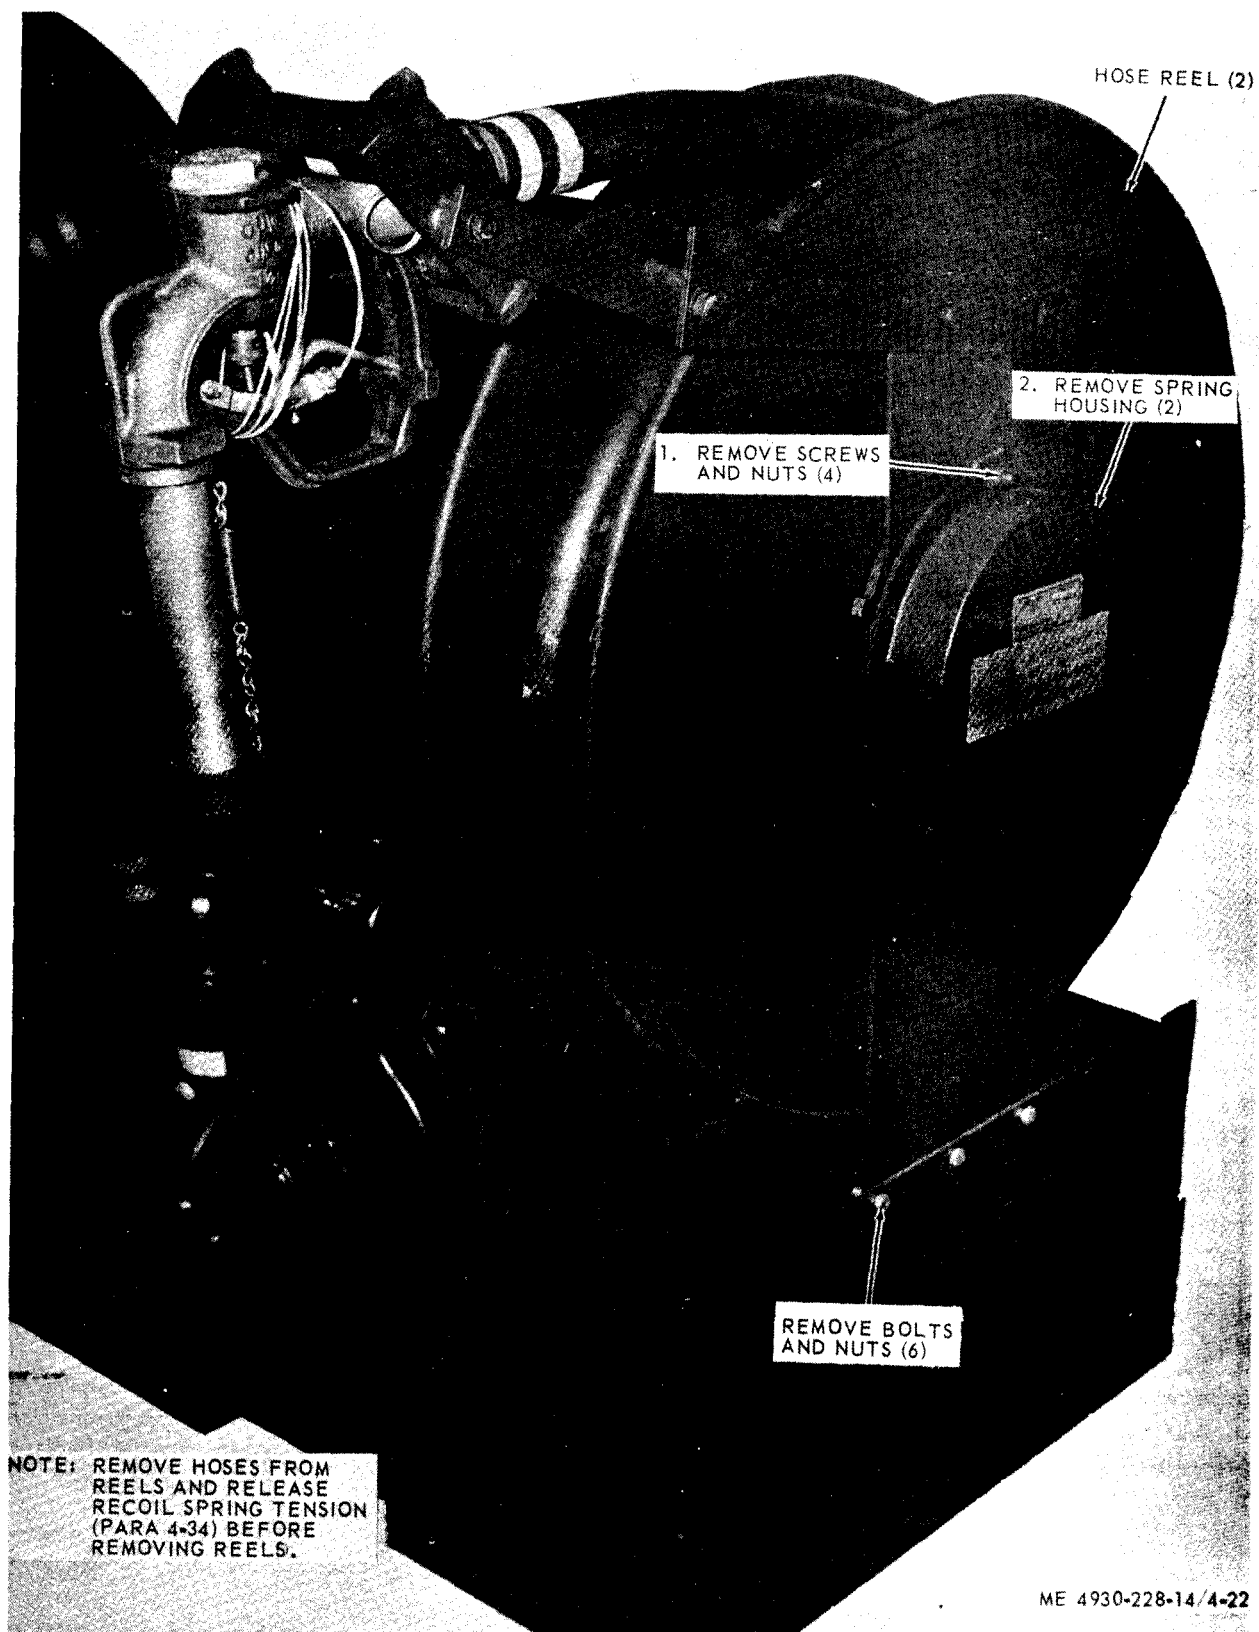

Figure 4-22. Hose reels and spring housing, removal.
(1) Remove the discharge hoses and nozzles (para 4-33).
(2) Refer to figure 4-22 and remove the hose reels and spring housings.
(1) Refer to figure 4-22 and install the hose reels and spring housings in reverse order of removal.
(2) Install the discharge hoses and nozzles (para 4-33).